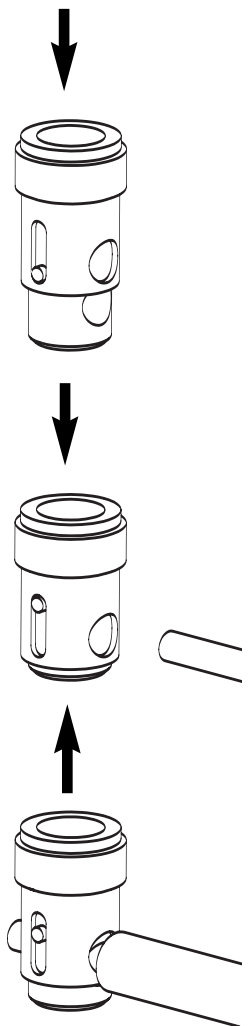

Figure 12
- Push down on the top of the terminal to reveal the wire hole in the side of the terminal post and insert the wire into the hole [Figure 12]. Release the pressure on the terminal to secure the wire.